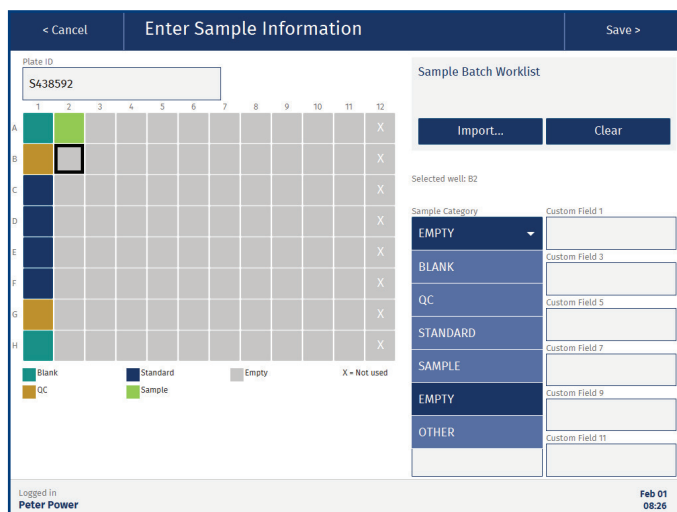

Figure 33. The Enter Sample Information view. Wells/columns that are not enabled in the extraction media are disabled and marked with an X (see A12-H12).
Power and routine users can enter custom information for the individual samples in the **Enter Sample Information** view (see Figure 33) during the setup of a run. There are two ways to do this, manually or by importing a sample batch worklist.
- a. Select a position in the sample plate/rack by pressing it; see Figure 33. Wells/columns that are not enabled in the extraction plate/rack are disabled and marked with an X.
- b. Select the sample category from the drop-down list; see Figure 33. Each category has its own color; see the color legend below the plate/rack.
3. Enter the sample plate/rack ID in the **Plate ID** text box in the **Enter Sample Information** view; see Figure 33.